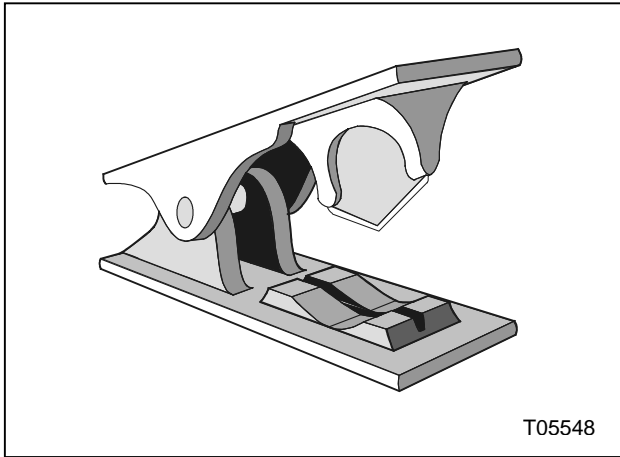

Figure 2: Cutter for soft plastic tubing
- 1) Cut the tubing squarely, using the tube cutter from Figure 2.
- 1) Cut the plastic tubing squarely, using the tube cutter shown in Figure 2.